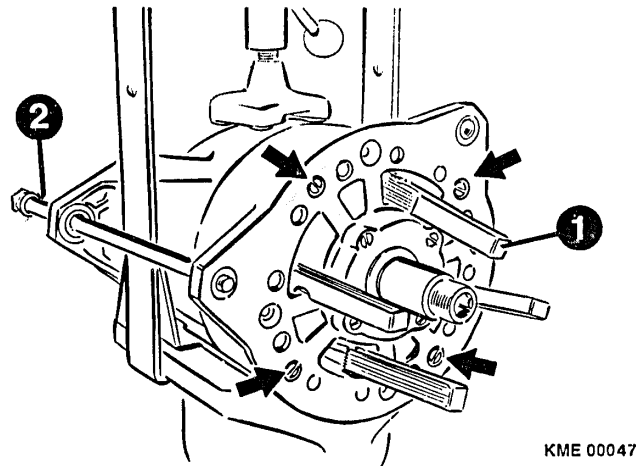

Figure 36 Drive End Shield, Stator and Collector End Shield Assembly
3. Insert guide pin KDLJ 6014 (Bosch Number 0 986 618 128) through the sliding bushing of the collector end shield and the bushing of the drive end shield. (Figure 36)
4. Start the four (4) drive end shield to collector end shield screws.
6. Insert four (4) 0.3 mm (0.012 in) feeler gauges between the stator and the rotor. The feeler gauges should be place in four diametrically opposed positions. (Figure 36)